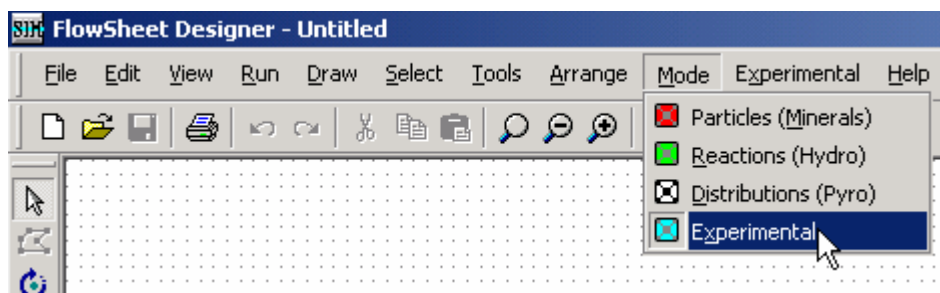

Figure 3. Switching between the simulation modes (Particle / Reactions / Distribution) and the Experimental mode.
- Optionally you can change the mode later to Experimental or you can toggle between one of the simulation modes (Particle, Hydro, Pyro) and the Experimental Mode (Figure 3)